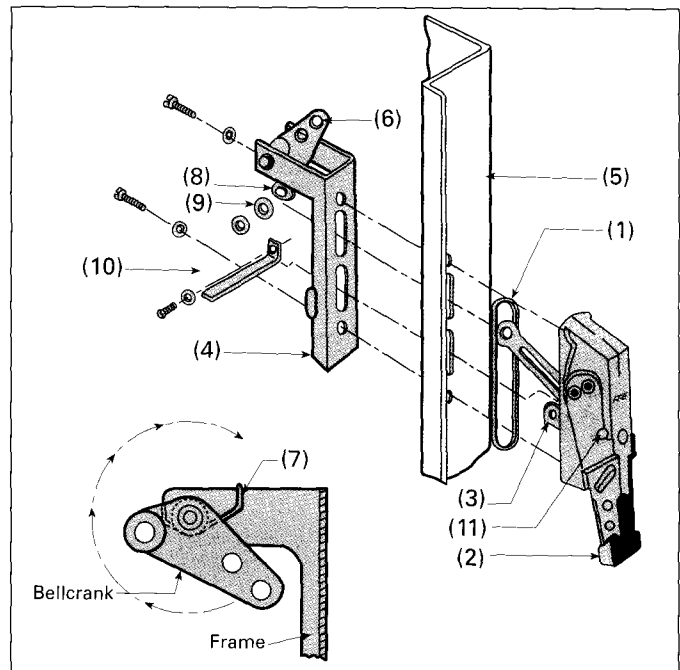

Figure 3
- Rotate the bellcrank (6) clockwise to engage the return spring (7). Hold the bellcrank in position and place the plastic washer (8) and connecting link (9) onto the bellcrank pin (10). Using pliers, secure the connection with an E-ring (11) (Figure 3).
- Mount the interlock lever extension (12) to the interlock lever (3) using #8-32 x 3/8" machine screw and lockwasher. Screw mounts through the threaded lever extension into the lever (Figure 3).